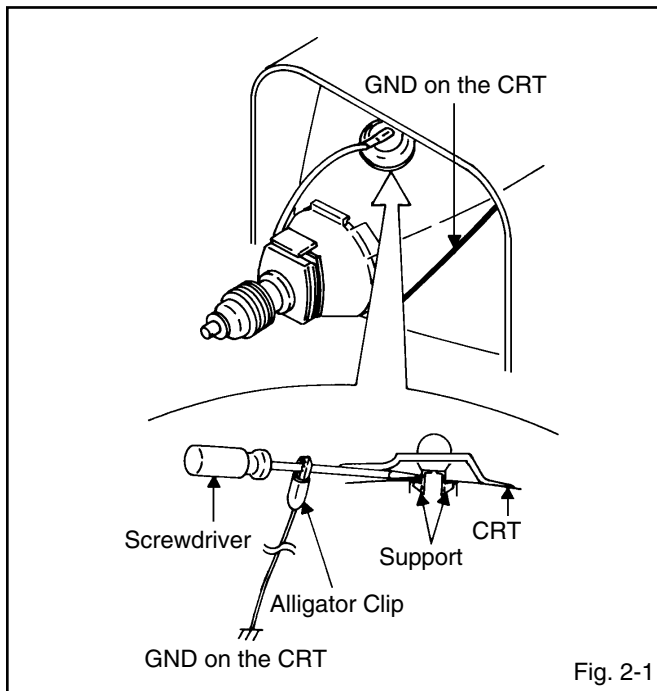

Fig. 2-1
1. Follow the steps as follows to discharge the Anode Cap. **(Refer to Fig. 2-1.)**